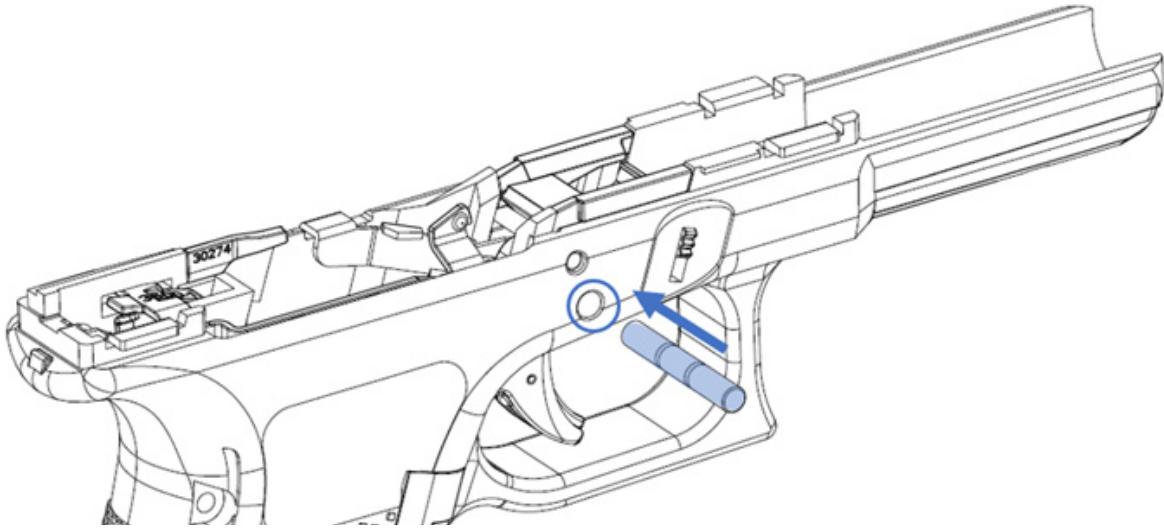

Figure 51 Trigger Pin assembly.
f) Hold the Slide Stop Lever and insert the Trigger Pin from right to left (Figure 51).